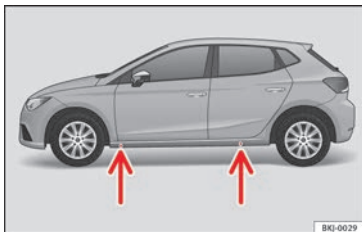

Fig. 85 Jack position points.
• Find the support point on the strut (sunken area) closest to the wheel to be changed » » » Fig. 85.